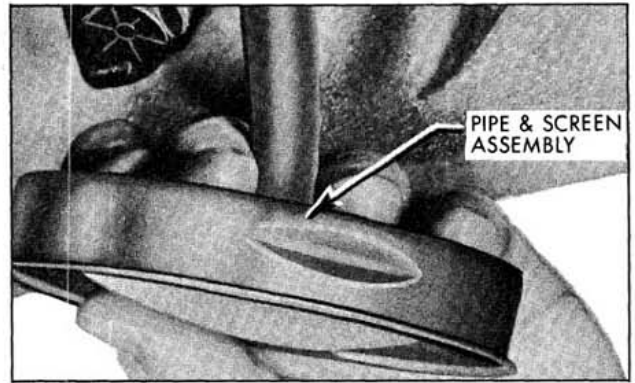

Fig. 3-22A Oil Pump Pipe and Screen Assembly
4. Remove oil pan bolts and lower oil pan enough to remove oil pump pipe and screen to cylinder block bolts. (Fig. 3-22A)